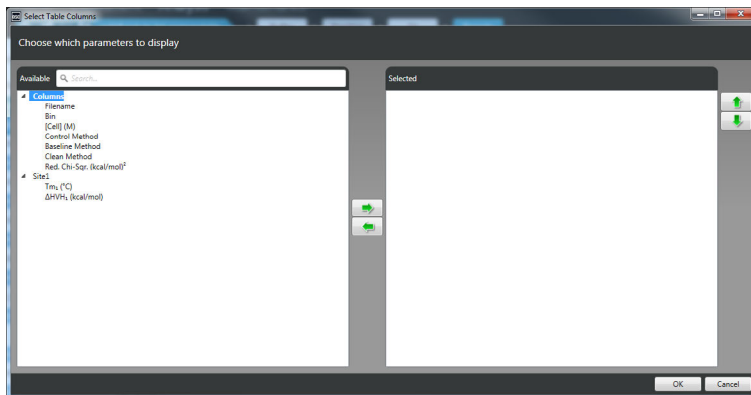

Figure 6.11 Select Table Columns window
3. Click **Select Properties** to open the **Select Table Columns** window (Figure 6.11) and choose which parameters to show in the **Results** widget.